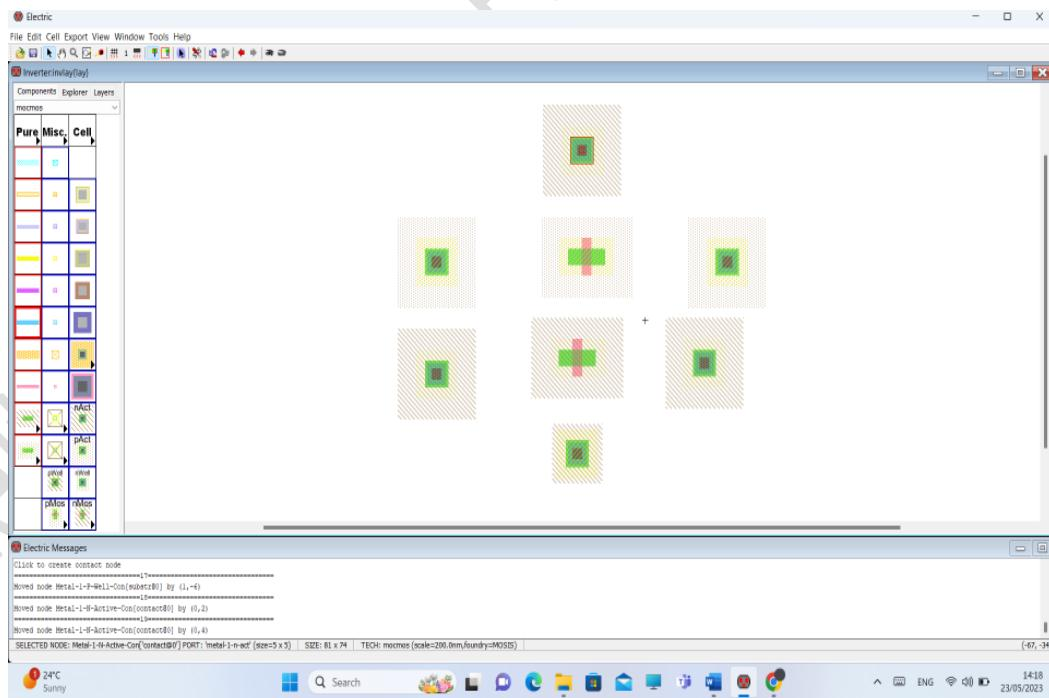

Figure 1.34: Selecting components for the layout.
2. Now select the components needed (NMOS transistor, PMOS transistor, nWell, pWell, pAct, NAct). (see Figure 1.34).